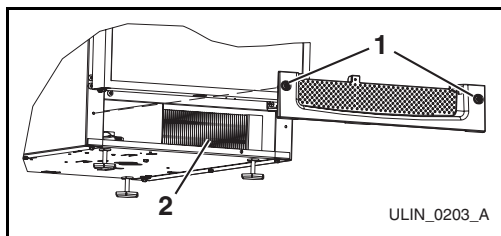

Figure 11
2. Loosen two screws (**Figure 11, 1**) completely.
4. Clean the condenser coil (**Figure 11, 2**) using a soft brush with a “combing” action or vacuum cleaner. Do not touch the condenser coil.